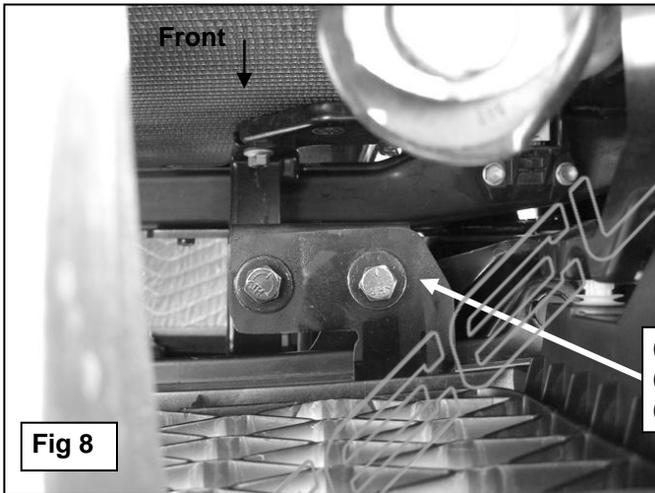

Fig 8
8. Select the driver side Top Bracket, (**Figure 6B**). Insert the Bracket through the gap between the bottom of the grille and the top of the bumper, (**Figure 6A**). Line up the (2) holes in the Top Bracket with the (2) threaded holes in the Support Bracket, (**Figure 7**). Bolt the Top Bracket to the Support Bracket with the included (2) 8mm x 25mm Hex Bolts, (2) 8mm Lock Washers and (2) 8mm Flat Washers, (**Figure 8**). Snug but do not fully tighten hardware.